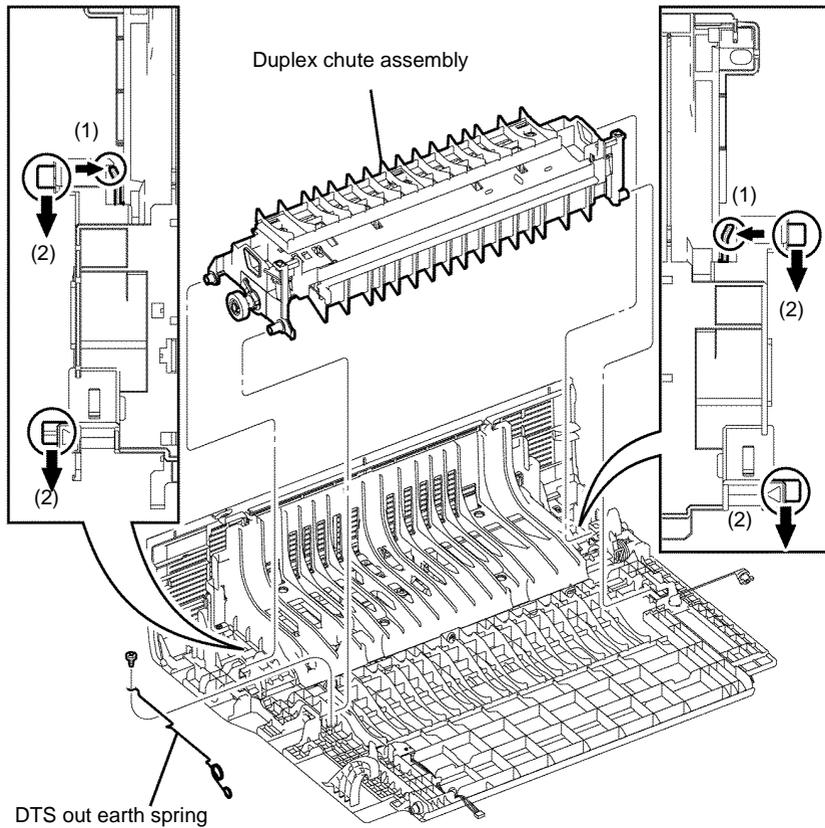

Figure 1 Duplex chute assembly removal
3. Remove one screw (silver, tapping, 4mm), then remove the DTS out earth spring from the rear cover assembly, Figure 1.
4. Release the two hooks, then remove the duplex chute assembly by sliding it to the left until the four bosses are released, Figure 1.